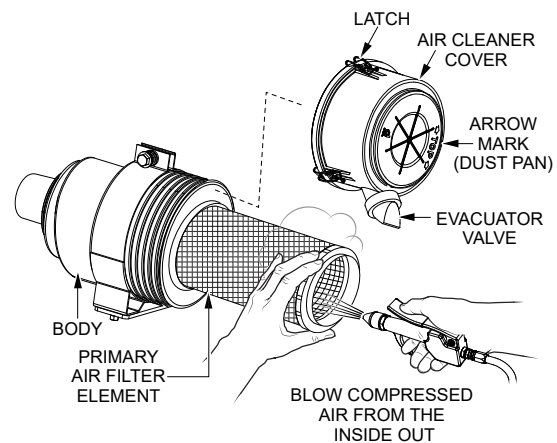

Figure 21. Engine Air Cleaner
The **engine air cleaner** (Figure 21) is equipped with a dry-type filter element. Never apply oil to the air cleaner.
1. To remove large dust and dirt particles, open the **evacuator valve** (Figure 21) once a week under ordinary conditions, or daily when used in dusty conditions.
2. Release the **latches** (Figure 21) on the air cleaner cover and inspect the air cleaner element. Clean or replace the element if it is dirty. Avoid touching the element except when cleaning. Replace the element if it is damaged.
6. If the inside of the **air cleaner body** (Figure 21) is dirty or wet, wipe it clean with a dry cloth.